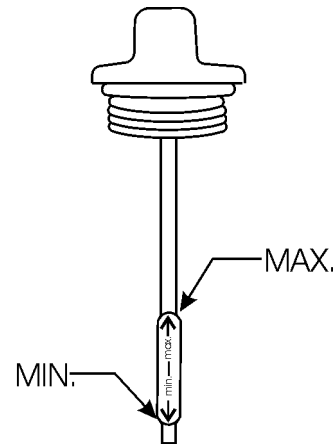

Figure 6. Engine Oil Dipstick (Oil Level)
4. If the oil level is low (Figure 6), fill to the edge of the oil filler hole with the recommended oil type (Table 6). Maximum oil capacity is 1.6 quarts (1.5 liters).